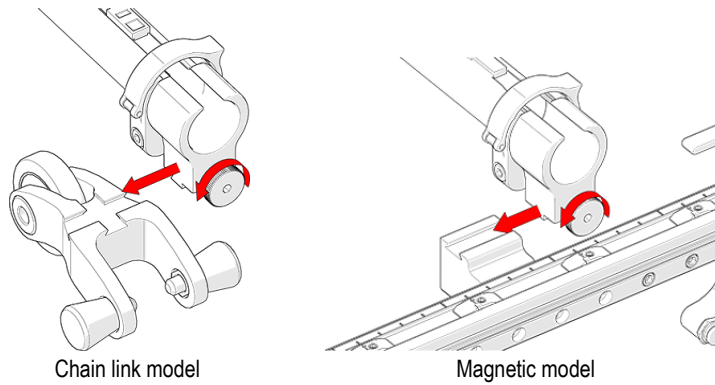

Figure 3-50 Loosen and slide on
1. Loosen the knob on the zipper tube dovetail mount. Slide the mount onto the dovetail link (see Figure 3-50 on page 73).